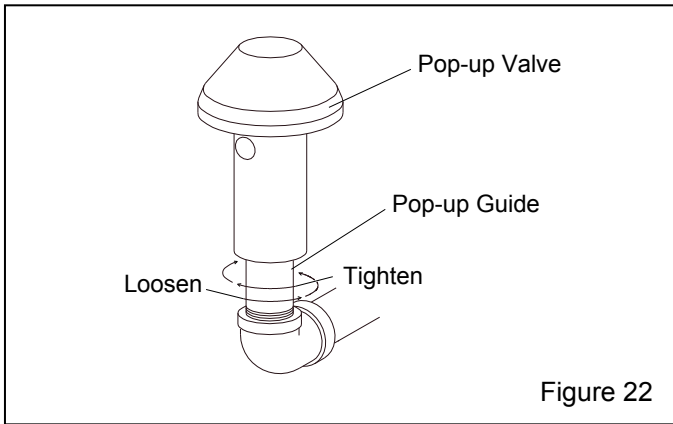

Figure 22
6.10 Replacing the Pop-Up Valve, Figure 22